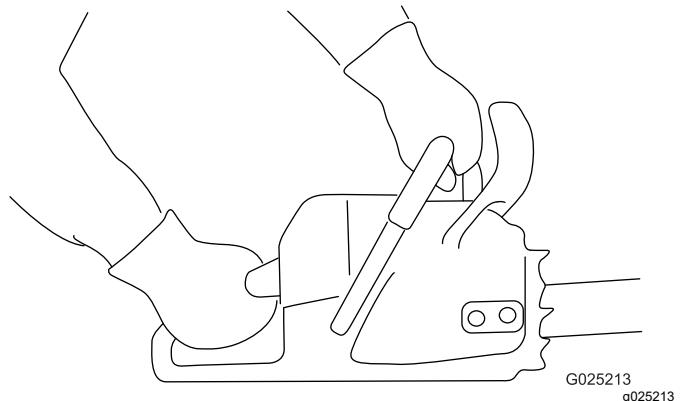

Figure 11
1. Grip the chain saw with 2 hands, with your left hand on the front handle and your right hand on the rear handle as shown in Figure 11.
1. Grip the chain saw as shown in Figure 11.
3. Grip the chain saw as shown in \(Figure 11\).